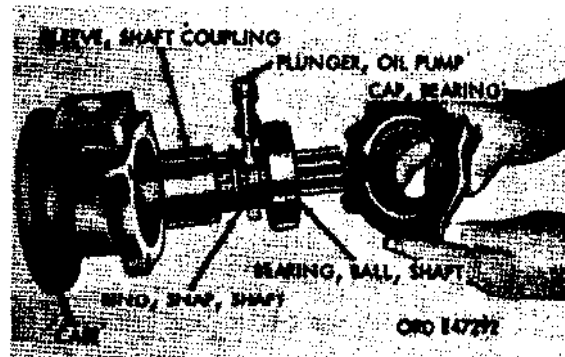

Figure 504. Power takeoff case components removed
- (5) Remove four hex-head bolts (Z), medium lockwashers (Y), and remove bearing cap (fig. 504).
- (6) Remove oil pump plunger (G) from cam on shaft (U) and pull shaft assembly from case (fig. 504).
- (7) Press shaft ball bearing (F) from shaft (U) and remove shaft snap ring (fig. 504).
- (8) If inspection (b below) warrants replacement, press oil seal assembly (C) from bearing cap (D).